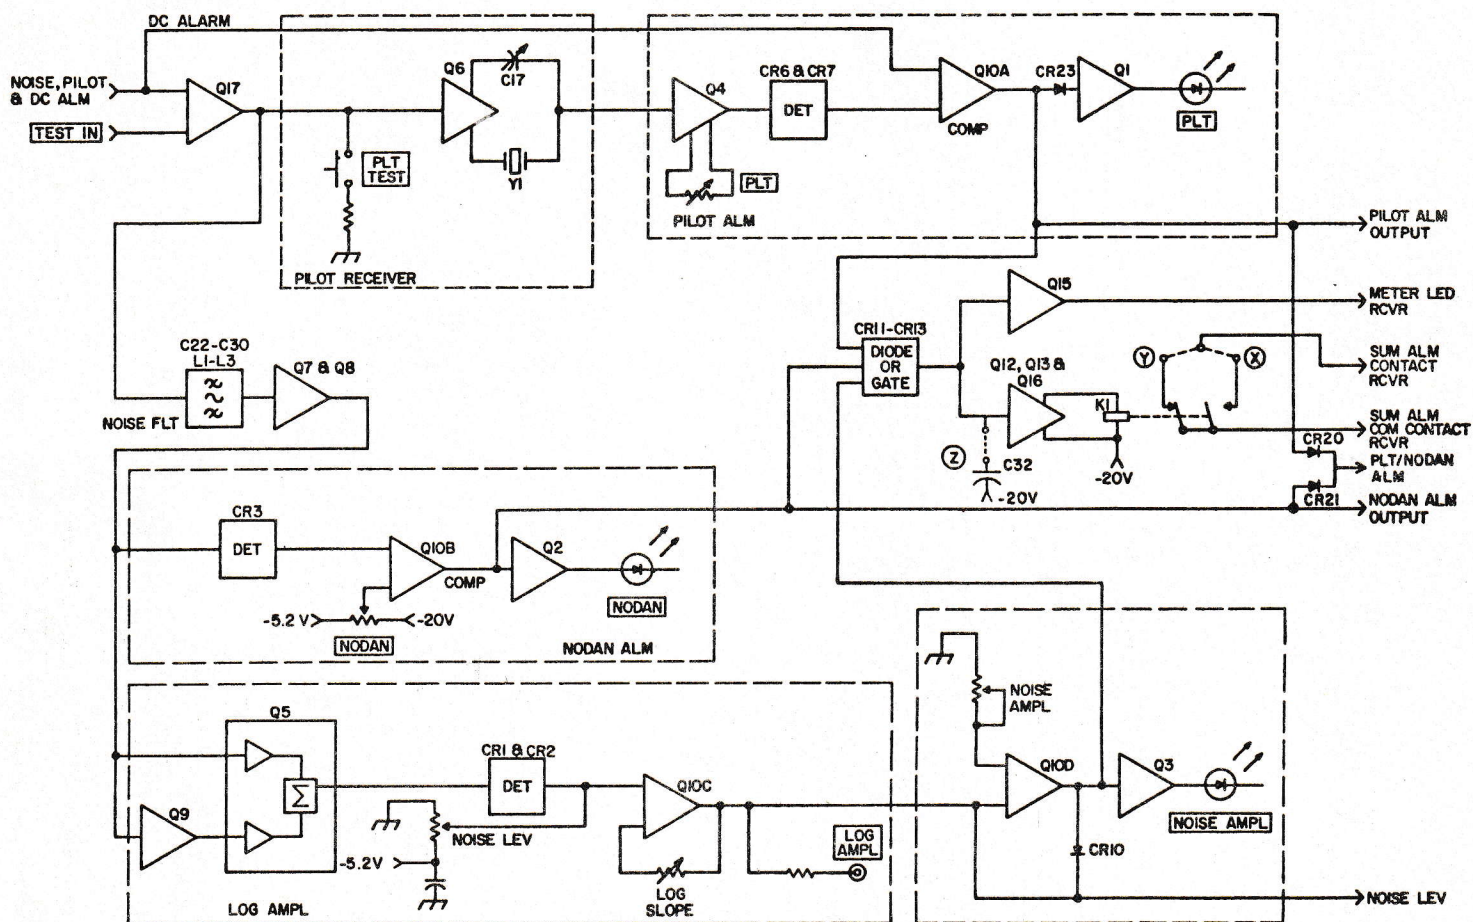

Fig. 1—Type 83150 Receiver Alarm
2.02 Complete circuit detail of the RCVR CONT unit is shown in SD-83160. Fig. 1, at the end of this publication, is a simplified block diagram of the circuitry.
Following is a list of the major circuit components found in the blocks of Fig. 1.